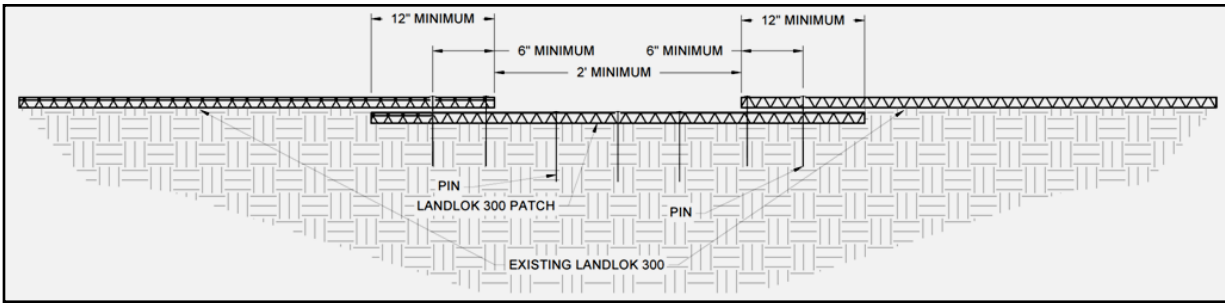
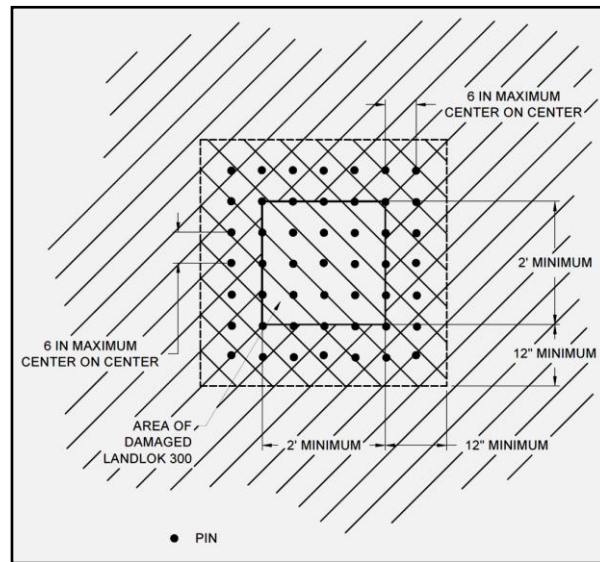

Figure 21: Landlok 300 Patch Cross Section
Figure 22: Landlok 300 Patch Plan View
- A. *Acceptable* (A) - The rated area is in satisfactory, acceptable condition, and will function as designed and intended during the rain event. Landlok 300 has no exposed edges, is installed tightly by maintaining direct contact to the channel surface with no rilling beneath, and has over 90% vegetation cover. There is no noticeable damage present.
- B. *Minimally Acceptable* (M) - The rated area has a minor deficiency that needs to be corrected. The minor deficiency will not seriously impair the functioning of the area during the next rain event; however, the overall reliability of the project will be lowered because of the minor deficiency. Landlok 300 has 75% vegetation cover with un-vegetated patches as large as one square yard. Edges of Landlok 300 are exposed with noticeable damage. Minimal erosion has occurred underneath Landlok 300.
- C. *Unacceptable* (U) - The rated area is unsatisfactory. The deficiency is so serious that the area will not adequately function in the next rain event. Landlok 300 has been physically torn, ripped, or lifted from the channel surface. Less than 75% vegetation cover is present with un-vegetated patches being greater than 1 square yard, and there is evidence that erosion is occurring beneath Landlok 300.
3. To repair Landlok 300, cut out and remove damaged areas in a square configuration a minimum size of 2 ft by 2 ft. Remove all vegetation and debris atop of Landlok 300. Loosen the top 1 to 2 in of soil in the patch area then seed. The subgrade of area to be patched shall be prepared to be smooth and uniform and transition smoothly into the in-situ area. Cut a square Landlok 300 patch a minimum of 12 in greater than the damaged area for all four sides of the patch. Overlap the patch area in all directions a minimum of 12 in. The patch overlaps shall be tucked under the existing damaged Landlok 300 material (Figure 21 and Figure 22).